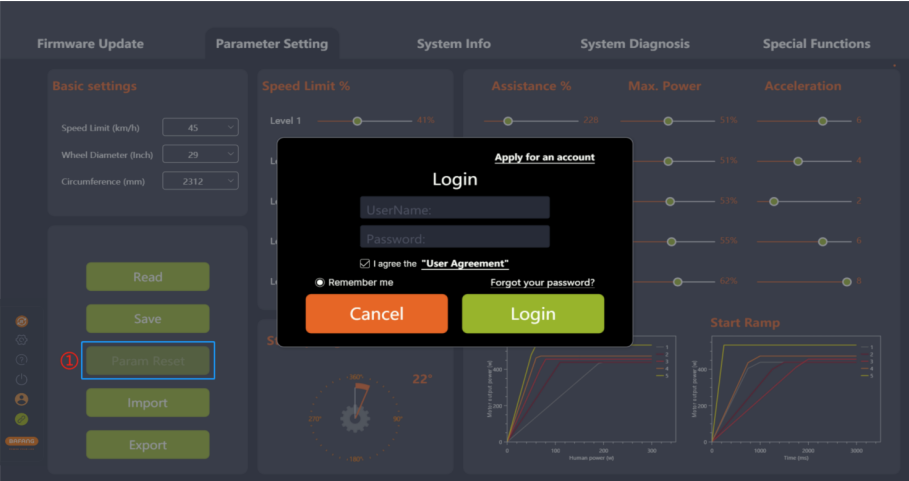

Fig 5-15 Reset Parameters
- 1. Check whether the BESST Tool is well connected to the controller, and click “Param Reset”. If you are not logged in, the “Login” interface will pop up, prompting you to log in (Figure 5-15).